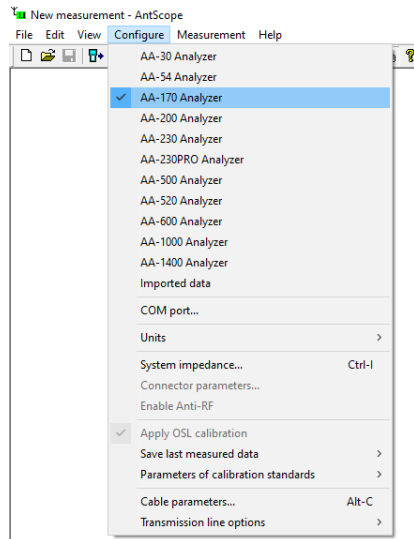

Figure 9-28: AntScope New measurement – Configure > AA-170 Analyzer
5. Select **Configure** and choose **AA-170** as the antenna analyser model for the RigExpert as shown in Figure 9-28.